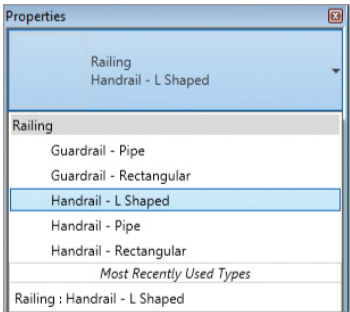

FIGURE 6.21 Selecting the new railing
- 7. The new profile has been associated to the duplicate railing. All you need to do is swap out the default stair railing for the new one! Select the handrails assigned to the stair, and then choose the L Shaped Handrail from the Type Selector in the Properties palette (Figure 6.21).